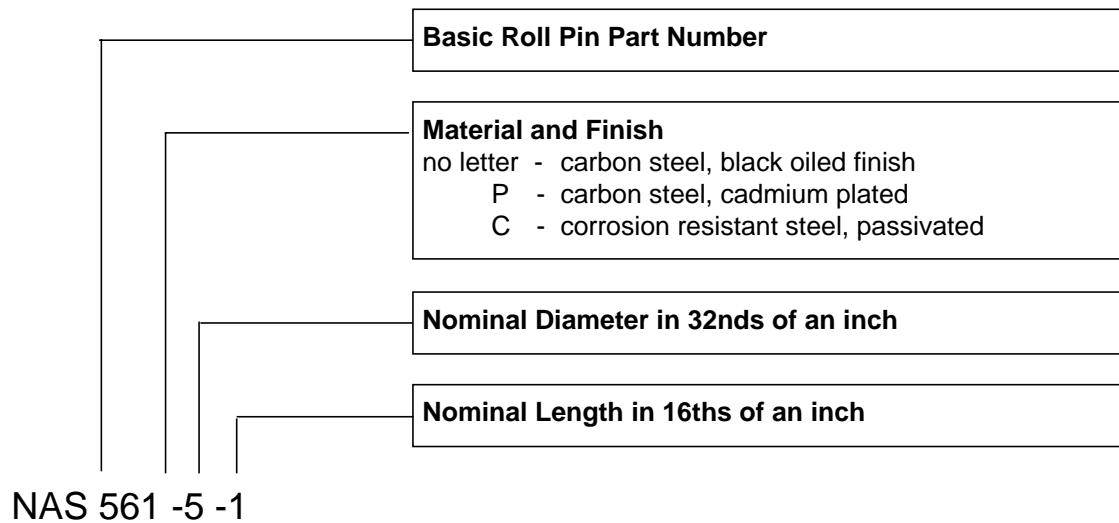
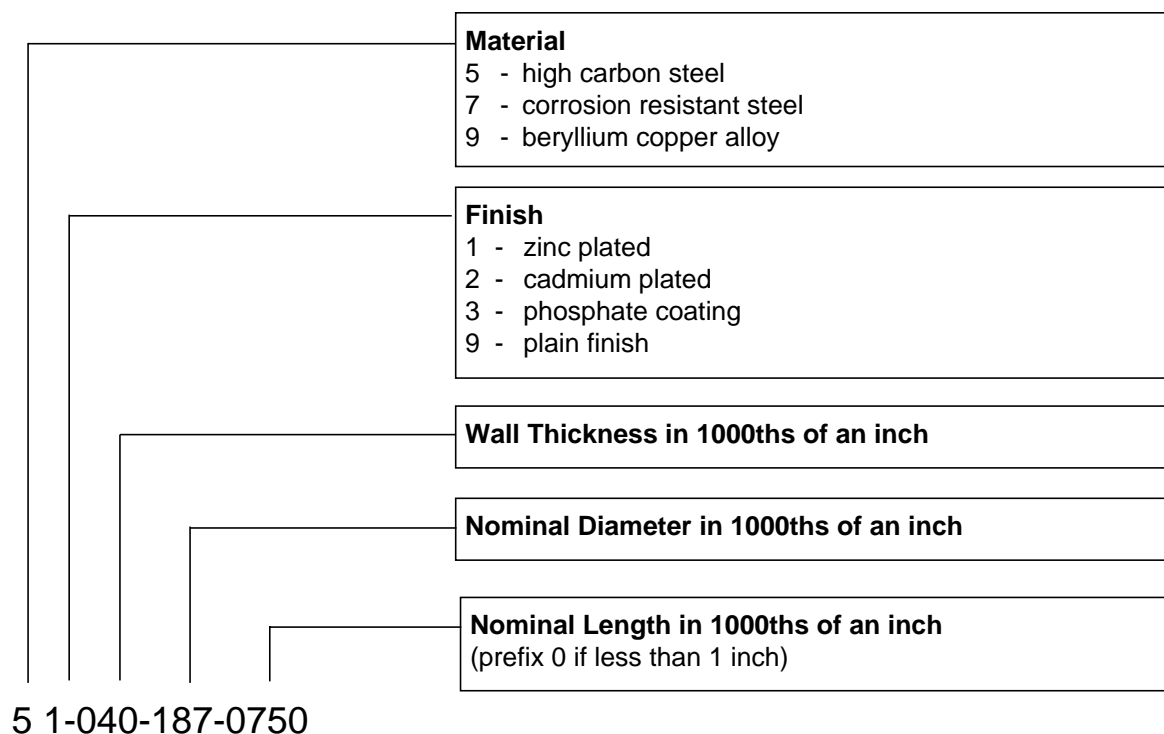
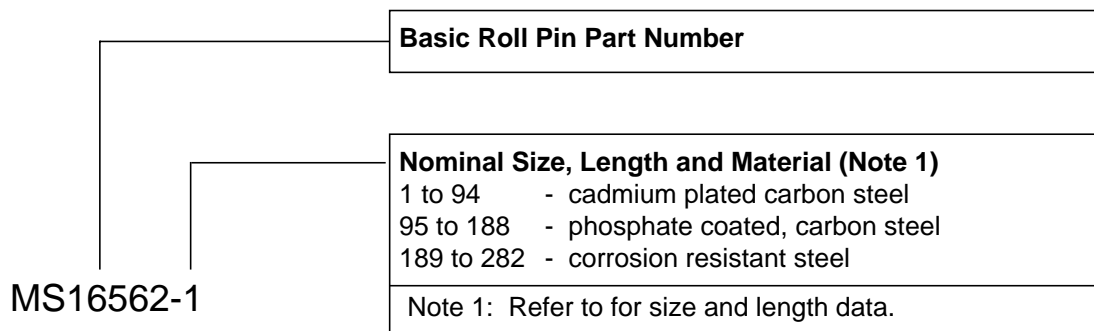

Figure 1 - NAS Designation
Figure 2 - ESNA Designation
Figure 3 - MS Designation
- 4.1.1 Roll pins as specified on the engineering drawing. Refer to Figure 1 for NAS designations, Figure 2 for ESNA (manufacturer's) designations, and Figure 3 for MS designations. NAS 561 and ESNA roll pin numbers have been replaced by MS16562 numbers. MS16562 roll pins are interchangeable with NAS561 and ESNA roll pins. Refer to Table 1 for detailed listings of MS16562 dash numbers and corresponding nominal diameter and length.